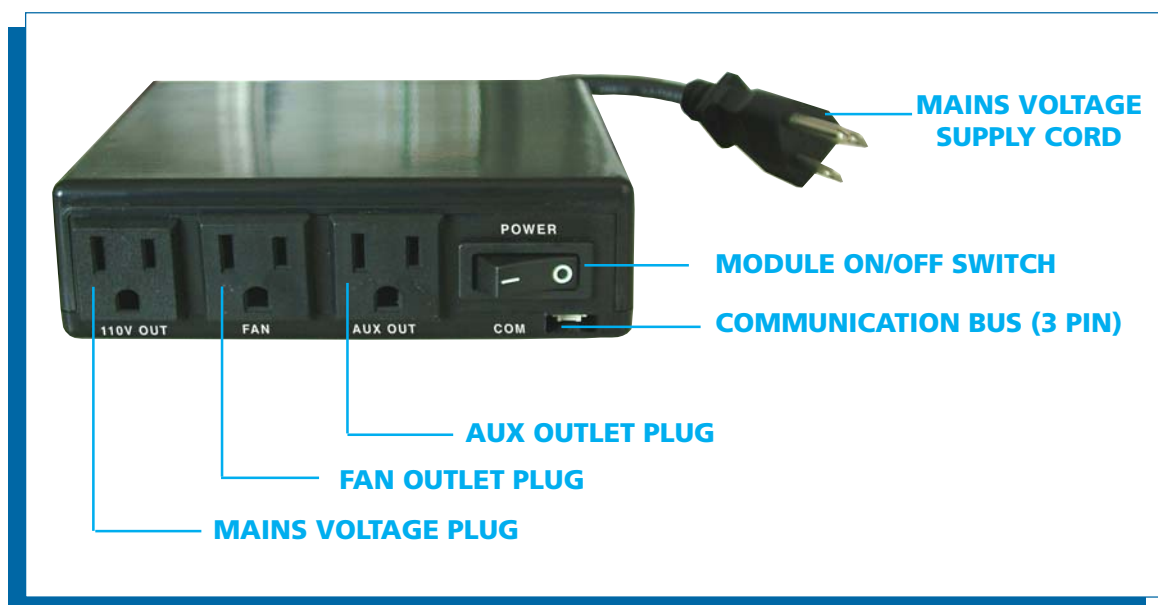

Fig. 4: Fan Control Module.
Fan Control Module (FCM) offers the added ability to control the fan speed from off through six (6) speeds, a remotely actuated 120V outlet and a constantly powered 120V outlet. The FCM provides DC power to the receiver allowing the batteries to be used only when line power is interrupted or lost (Fig.4).